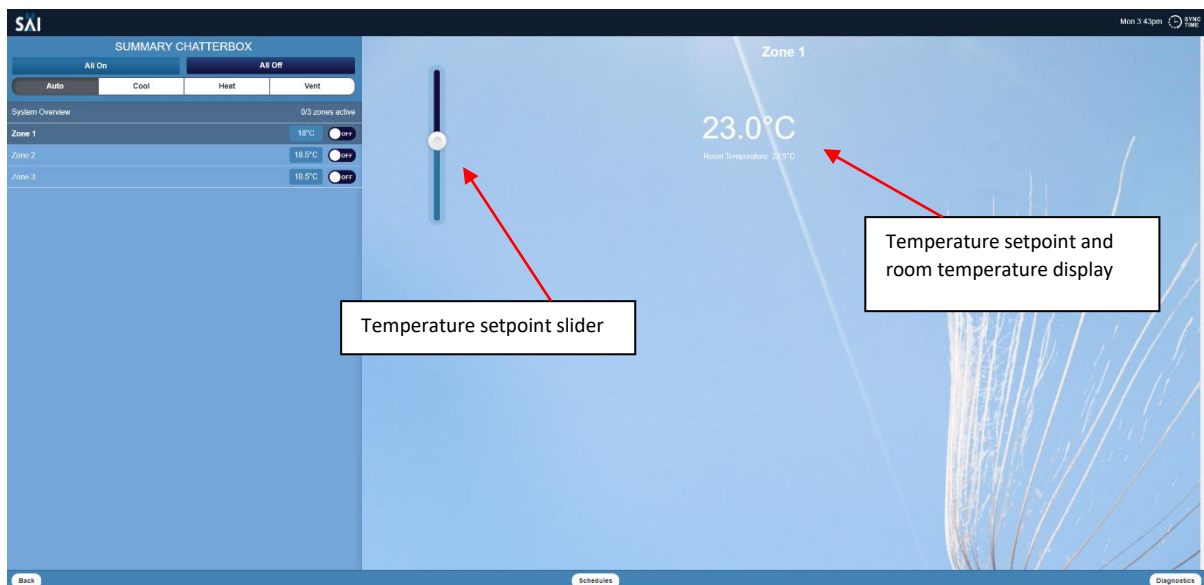

Figure 15 – Zone temperature adjust
6. Press the “Home” button when you have completed your selections. (Figure 15) or select another zone and repeat.